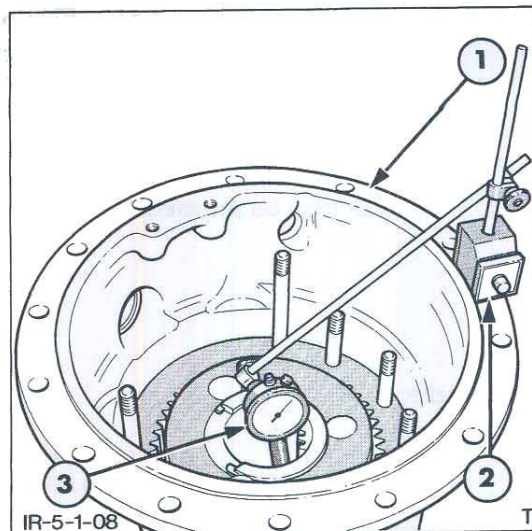

Figure 8
- b. Set up a dial indicator, as shown in Figure 8. It will be necessary to use an extended plunger on the dial indicator to enable a reading to be taken from the top of the axle shaft bolt.